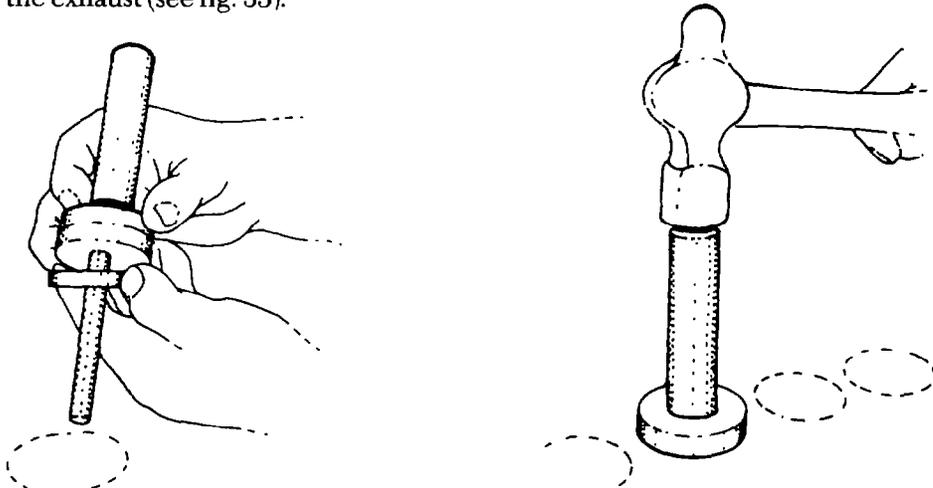

Fig. 35 — Installing Valve Seat Inserts
- c. To install the new seat inserts into position, use drive tool J-25259-1 for the intake and J-25259 for the exhaust (see fig. 35).